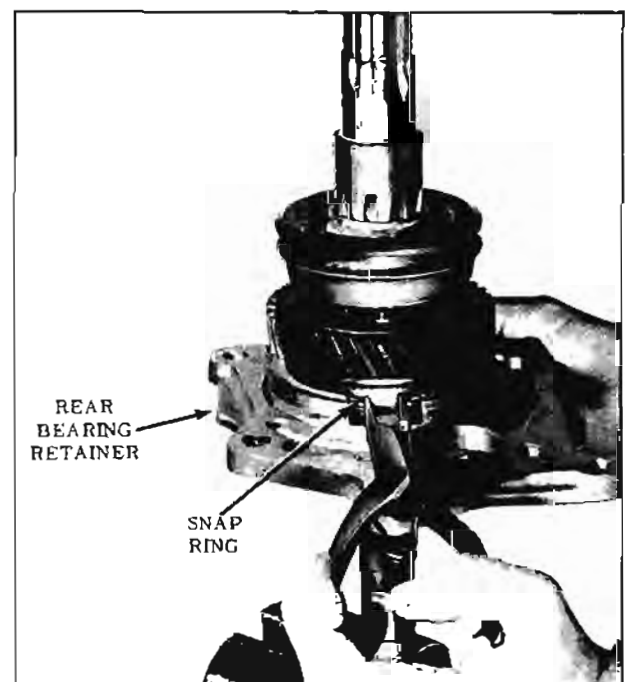

Fig. 11-236 Rear Bearing Retainer Removal
6. Clamp the main shaft in a vise with the front of the shaft up. Avoid the machined areas of the shaft. (Fig. 11-236)
7. Spread the rear bearing retainer snap ring and tap the retainer off the bearing. (Fig. 11-236) Remove main shaft from vise and remove bearing retainer.